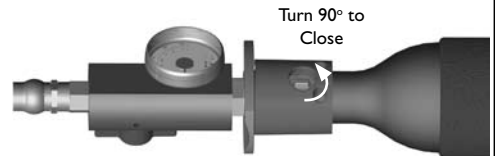

Figure 8f - Rotate the Nozzle Valve
8. Remove the Filler Hose Wrench from the Streamline Filler Hose Assembly and close the Nozzle Valve by rotating the Nozzle Valve 90 degrees. (Fig. 8f)